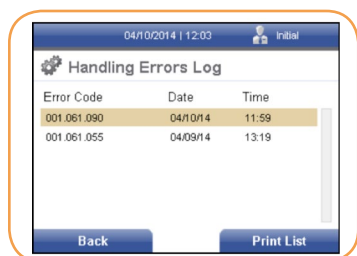

FIGURE 100
2. Press the right soft key to select Handling Errors. The *Handling Error Log* screen is displayed (Figure 100).